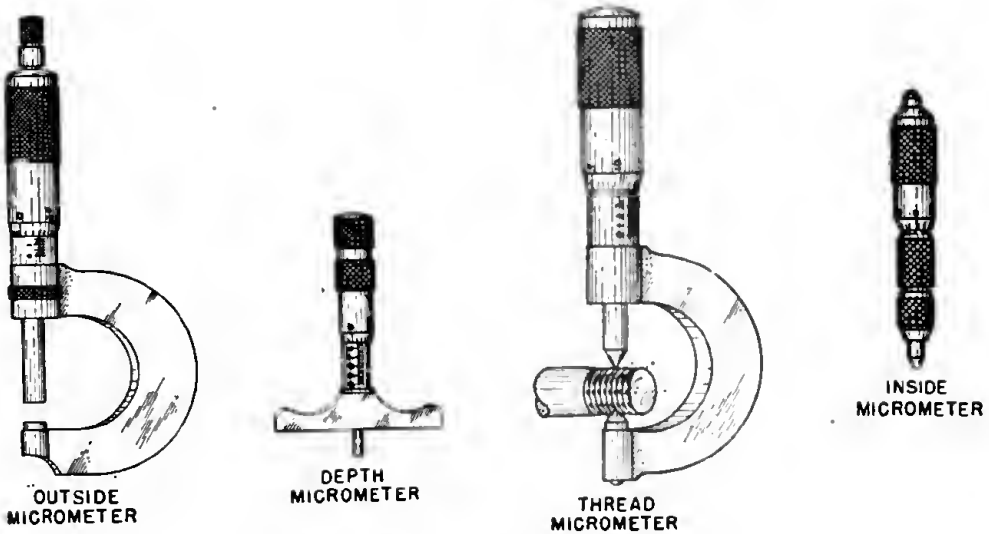

Figure 70. Four types of micrometers.
c. TYPES. Different types of micrometers are used for different kinds of work. The only difference between them is in the housing or frame. (See fig. 70.) The principle of operation of all the types is the same.